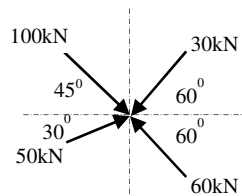

Fig. 8
- c) Using vector components, determine the magnitude and direction of the resultant of the concurrent forces shown in figure 8. (8 marks)